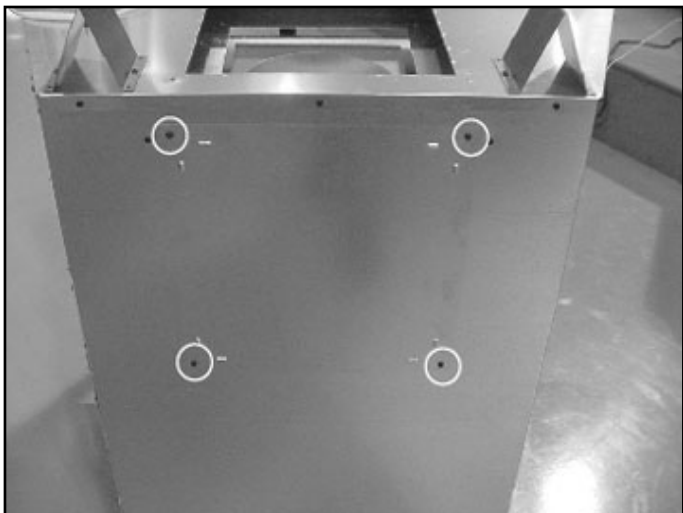
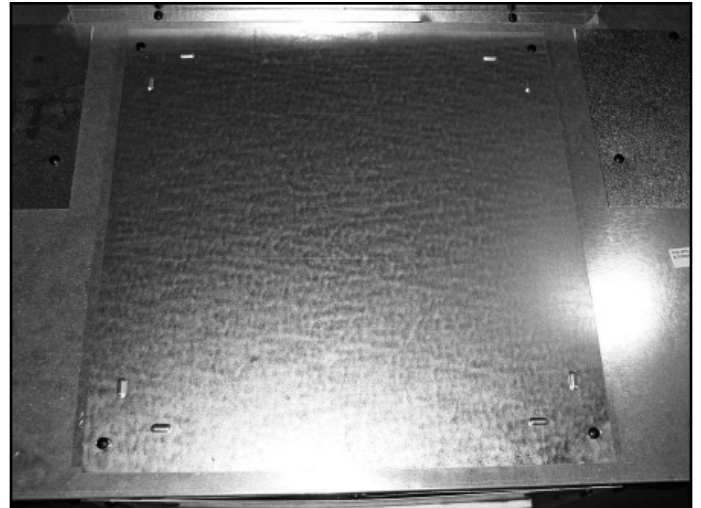
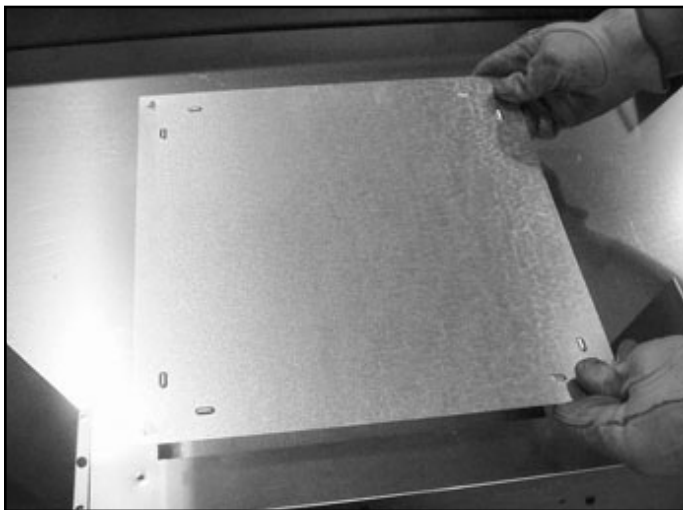

Figure 9.7 Outer Shell Cover
Figure 9.18 Screw Cover into Place
Figure 9.17 Place Cover Plate on Top of Appliance
- Remove four screws holding outer shell cover. See Figure 9.7. Remove outer shell cover and set aside.
- Locate outer shell cover removed in the sixth step (Figure 9.7). Place the cover on top of appliance. See Figure 9.17. Replace four screws to hold plate in place. See Figure 9.18.